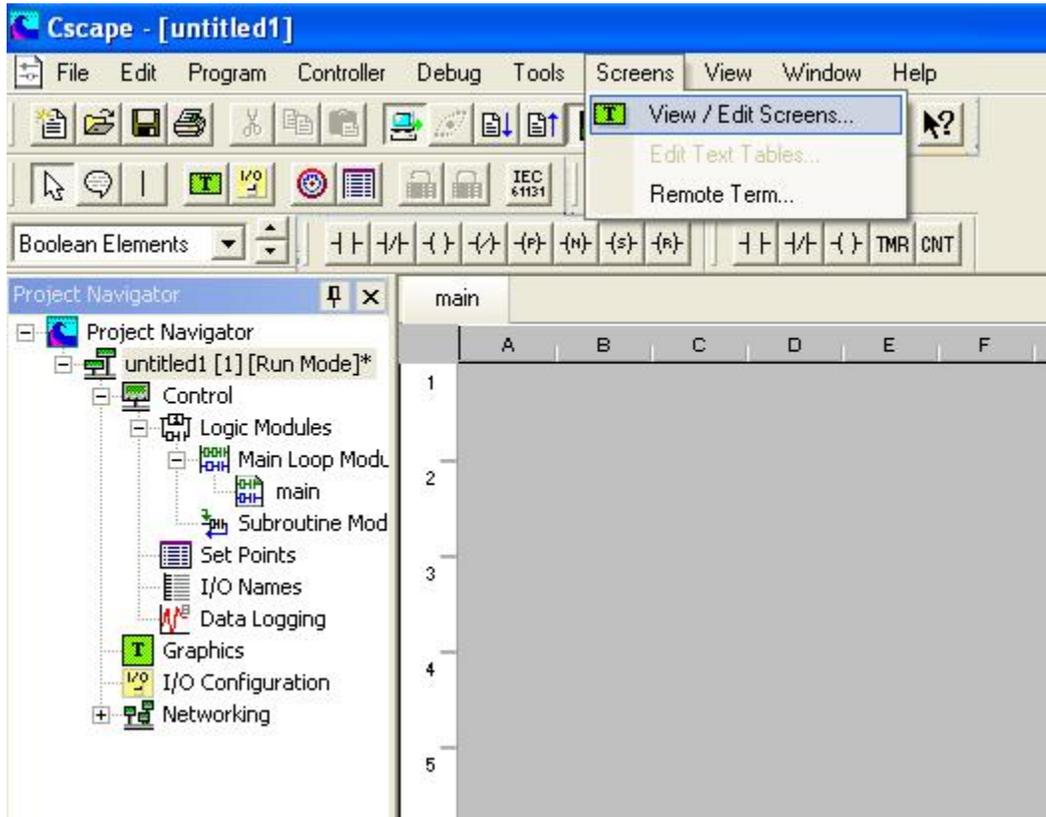

Fig.6
10. Select Screens/View edit Screens (Figs. 6&7).